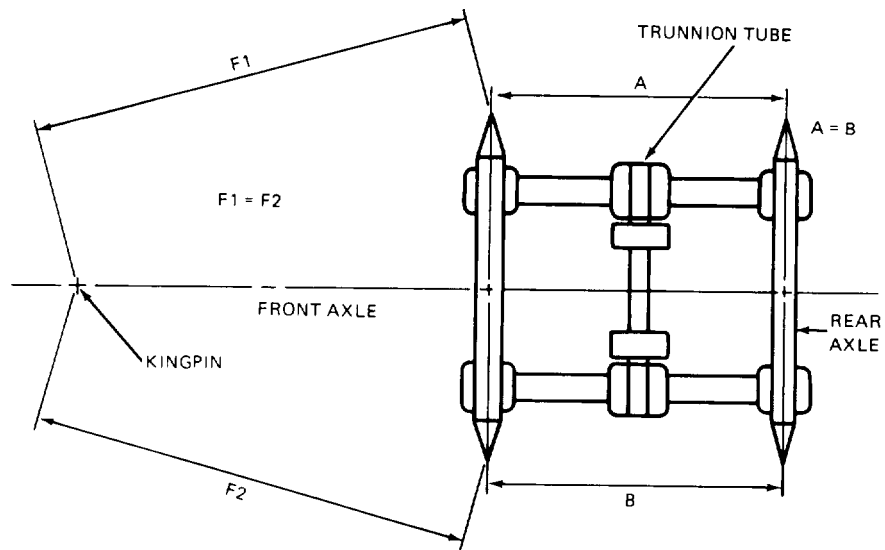

Figure 5-2. Axle alignment
- (1) Align front axle with the kingpin (figure 5-2).
- (2) There is one prewelded adjustment plate and one that is not welded on each side of the axle. After alignment is complete, weld the unwelded adjustment plates. Welds are per Class 2, MIL-STD-1261.
- (1) Align rear axle with front axle (figure 5-2).